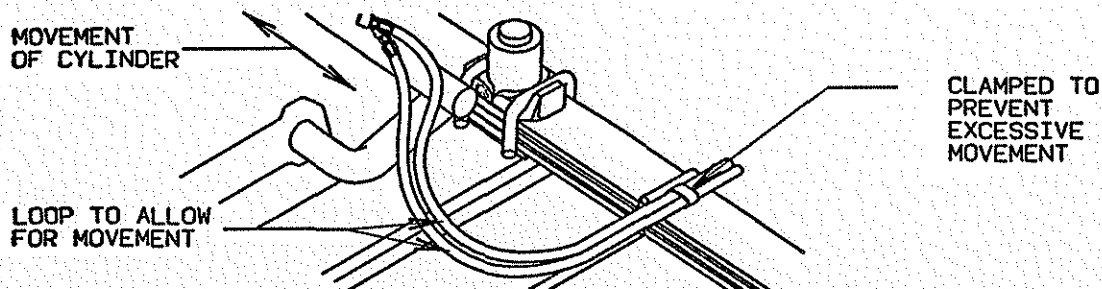

FIGURE 2
- 7.1 IN A FLEXING APPLICATION, ROUTING THE HOSE THROUGH THE PIVOT POINT AROUND WHICH THE COMPONENT MOVES HAS CERTAIN ADVANTAGES. THIS PRACTICE HELPS INCREASE FLEXING EFFICIENCY, USES THE LEAST AMOUNT OF HOSE, AND KEEPS THE HOSE WITHIN THE PROFILE OF THE VEHICLE. (SEE FIGURE 2)
- 8.4 FLUID CONDUCTORS MUST BE ADEQUATELY CLAMPED FOR SATISFACTORY SERVICE. REGULAR HOSE AND TUBING CLAMPS WILL NOT HOLD A LARGE, HIGH PRESSURE HOSE. THE CLAMP SHOWN IN FIGURE 2 PIVOT POINTS, IS INEXPENSIVE AND EFFECTIVE FOR HIGH PRESSURE SURGING LINES. IN ROUTING, LONG HOSE LINE LENGTHS SHOULD BE PLANNED TO PERMIT PROPER CLAMPING. CHANGE IN LENGTH OF THE HOSE AS A RESULT OF PRESSURE SURGES SHOULD BE ANTICIPATED WHEN LINES ARE CLAMPED. PROPER ROUTING AND CLAMPING CAN PREVENT ABRASION.